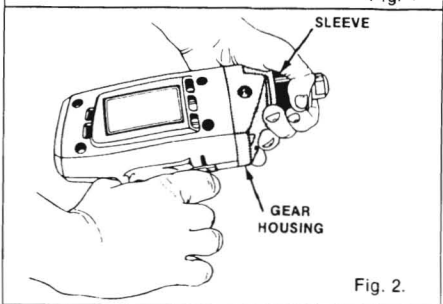

Fig. 2.
4. Point the drill away from your body as shown in Figure 2. Also, once you begin installing bits (see page 5), raise the front of your drill slightly to keep the drill bits from falling out of the chuck jaws.
6. Grasp the sleeve of your drill's auto chuck as shown in Figure 2 and pull it toward the gear housing. Note that the chuck jaws are closing. When it appears that the chuck jaws have closed to a point where the opening is slightly larger than the drill bit you intend to use, release the auto-chuck sleeve. **TO PREVENT POSSIBLE DAMAGE, DO NOT ALLOW THE CHUCK JAWS TO CLOSE ON THEMSELVES.**
4. Raise your drill slightly and point it away from your body as shown in Figures 2 and 3.